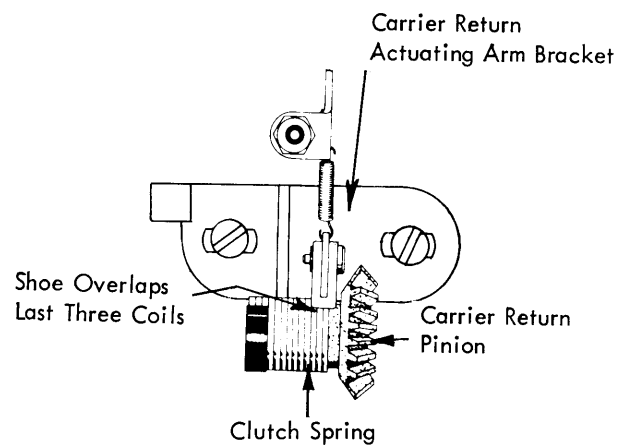

FIGURE 135. *Carrier Return Shoe*
5. Carrier Return Shoe - Adjust the carrier return actuating arm bracket left or right so that the carrier return shoe overlaps the last 3 coils on the right hand end of the clutch spring. Covering the last 3 coils insures that all the coils of the spring will be used in the clutch operation (Fig. 135).